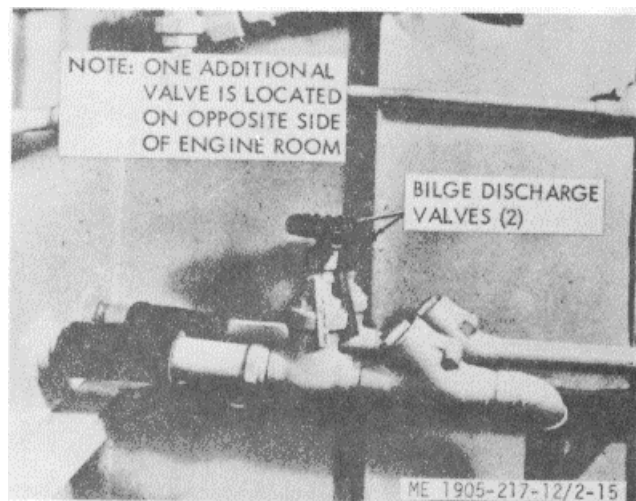

Figure 2-15. Bilge overboard discharge valves.
(1) Open the valves in the priming lines.
(2) Open bilge pump overboard discharge valve (fig. 2-15).